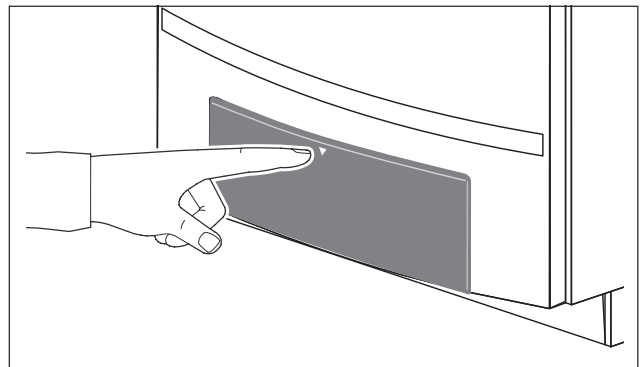

fig. 73 Opening the control panel
- Push on the control panel to open it (fig. 73).